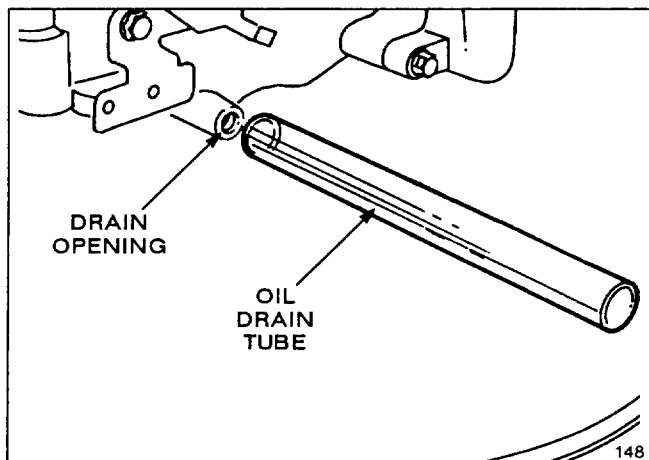

Figure 13
3. Raise left side of mower at least 12 inches (Fig. 13). Remove drain plug using a 14mm or 9/16" wrench. Place a drain pan at left side of mower.